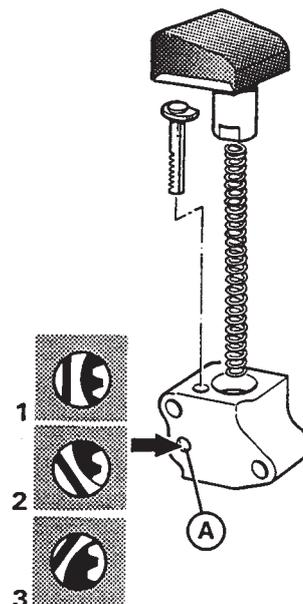

Fig.9 Chain tensioner
- Turn the lock screw to position '1' and assemble the tensioner (see fig.9).
23. Activate the hydraulic tensioner by turning its lock screw to position '3' (fig.9).